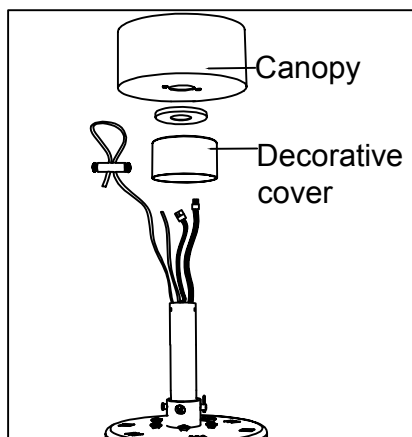

Figure 1.3
- Place all electrical wires and the safety cable through the decorative cover and canopy. (Figure 1.3)